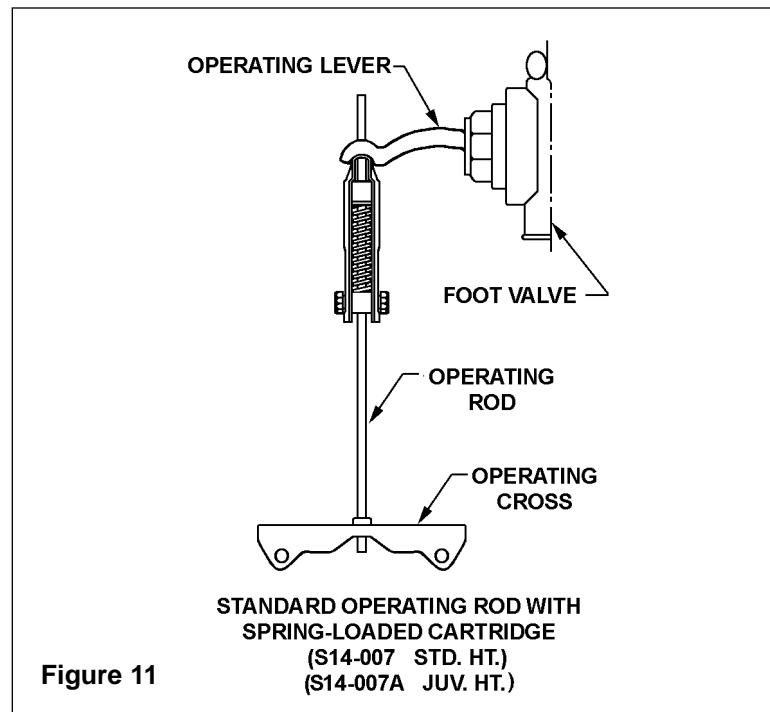

Figure 11
1. Insert the rod in the operating lever and then into the operating cross (see Figure 11).
NOTE: For normal operation, use the operating rod as shipped. The spring loaded cartridge should be adjusted so there is no play in the operating lever. Care must be taken to insure that a snug fit is achieved without activating the foot valve or water will leak from the sprayhead (see Figure 11).